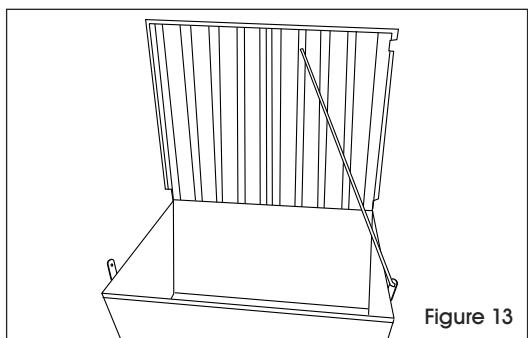

Figure 13
17. Lock bars can also be used as a lid prop by inserting the stop pin into the lock bar bracket hole. (See Figure 13)